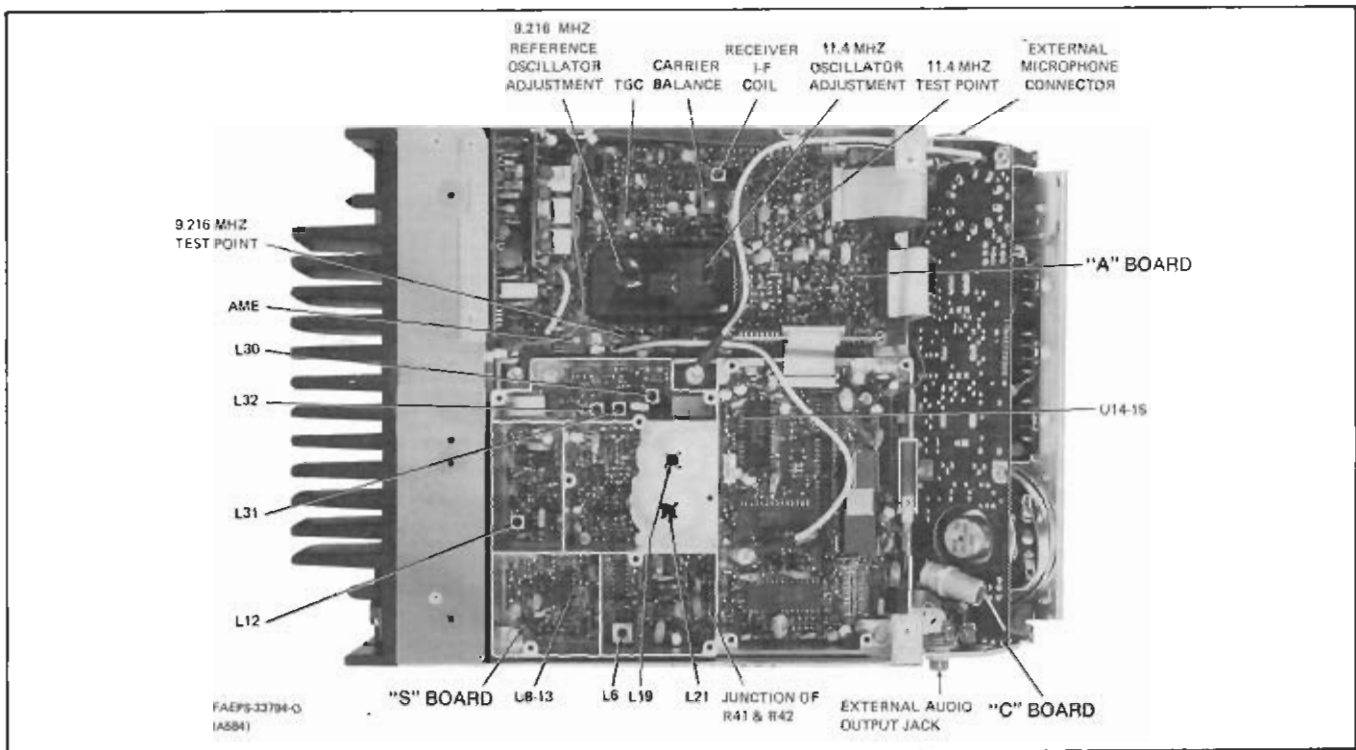

Figure 1. "A" and "S" Board Adjustments
Step 2. Connect a frequency counter through a 0.1 μ F coupling capacitor to the junction of R78 and C6 on the "A" board (see Figure 1).
Step 3. Remove the plastic access plug from the oven insulating cover over the i-f oscillator section of the "A" board (see Figure 1). Using an insulated tuning tool, adjust the piston trimmer capacitor for a reading of 11.400000 MHz ± 1 Hz.
Step 3. Remove the plastic access plug from the oven insulating cover over the reference oscillator section of the "A" board (see Figure 1). Using an insulated tuning tool, adjust the piston trimmer capacitor for a reading on the frequency counter equal to the carrier frequency ± 1 Hz.
(Refer to Figures 1 and 4 for location details.)
Step 3. Connect a frequency counter through a .01 uF coupling capacitor to the 9.216 MHz test point node located near C82 on the “A” board (see Figure 1).
Step 4. Remove the plastic access plug from the oven insulating cover over the reference oscillator section of the “A” board (see Figure 1). Using an insulated tuning tool, adjust the piston trimmer capacitor for a reading of $9.216 \text{ MHz} \pm 2 \text{ Hz}$.